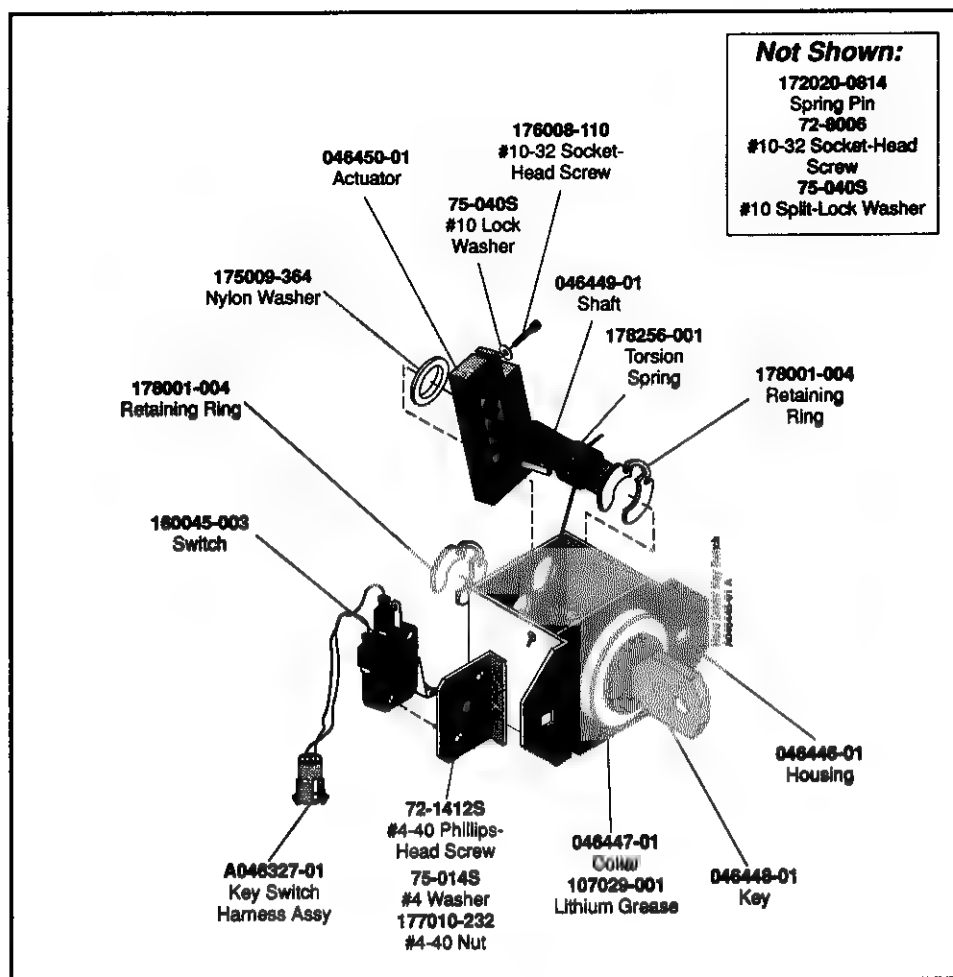

Figure 3-6 Maintaining the Key Switch Assembly
2. Lightly oil the bezel, shaft, and spring of the key switch. See Figure 3-6. Check that the spring is not broken. If it is, then replace the spring following the procedure under *Repairing the Key Switch*.
3. Remove the retaining ring from the back of the key switch case. See Figure 3-6.
2. Adjust the actuator on the shaft until it is parallel to the roller on the switch. See Figure 3-6.
Replace the switch if the key turns but nothing happens and the problem is not the spring, the actuator, or the connections. The key switch assembly is shown in Figure 3-6.